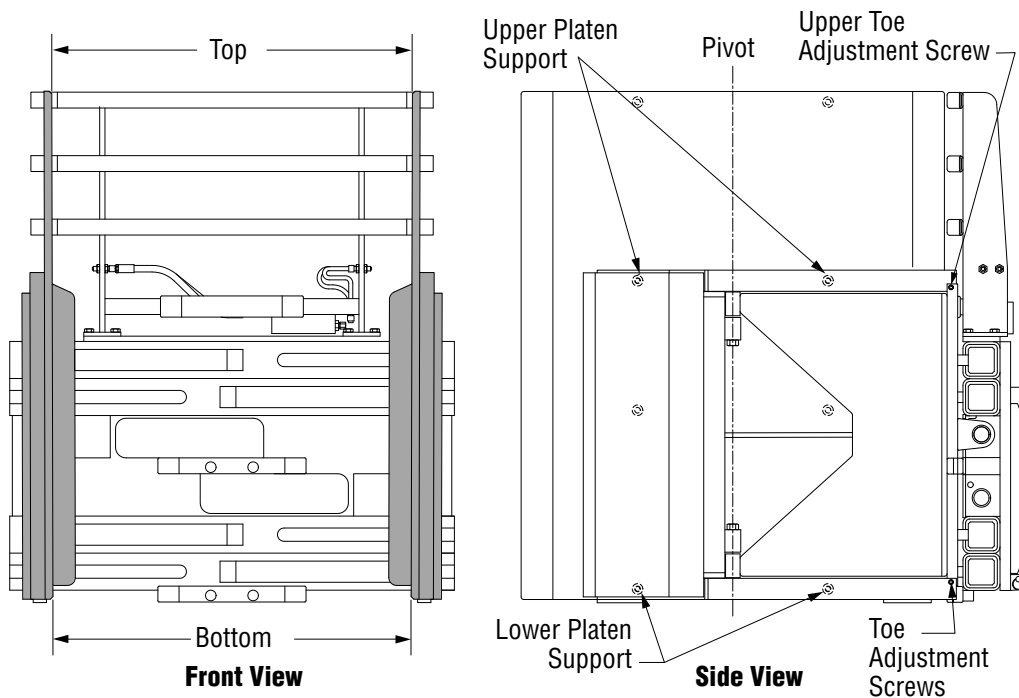

Figure 5-18, Camber And Toe Adjustment
6. To increase camber, add one or more spacer(s) between the pad and the lower platen support. (Figure 5-18)
4. To adjust the toe out, first loosen the lock nuts and then screw the adjustment screws out (counterclockwise) for greater toe out, in for less. Be sure to adjust both the top and bottom adjustment screws found on each platen support. (Figure 5-18)